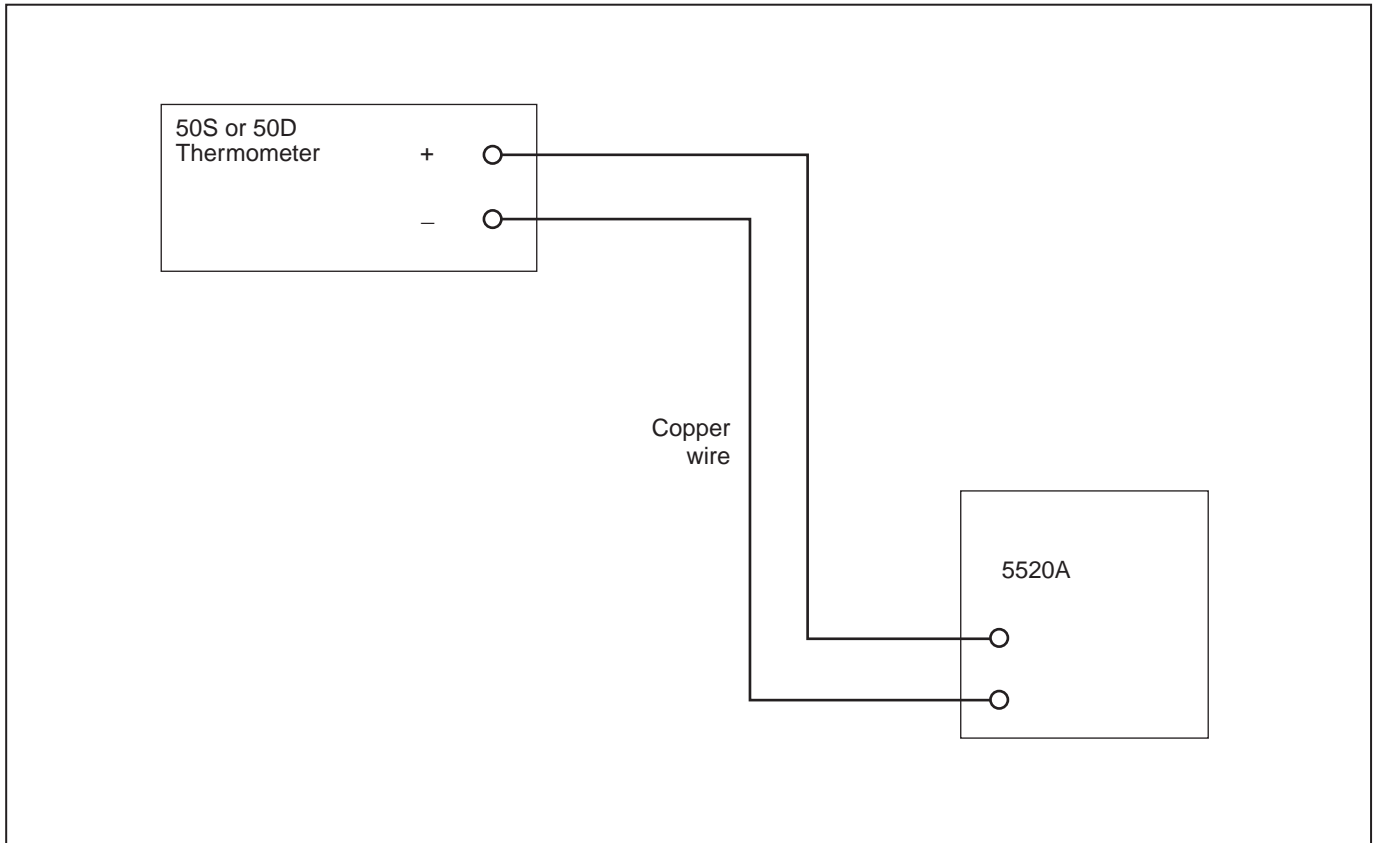
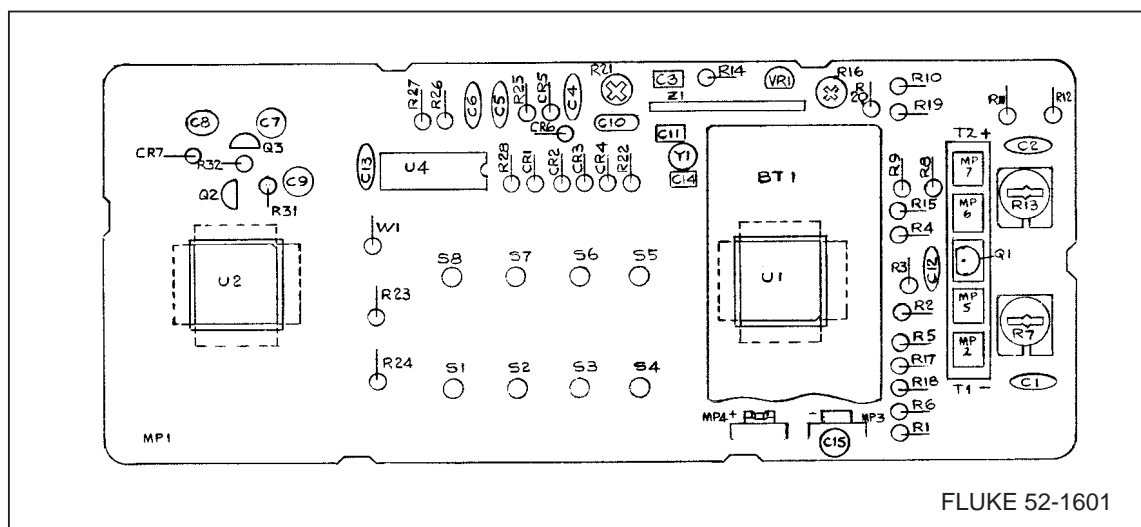

Figure 5. Calibration Connections
Figure 6. A1 Main PCA Adjustments
When calibrating the thermometer, refer to Figure 5 for the proper setup connections and Figure 6 for adjustment locations.
6. Allow the thermometer reading to stabilize. Refer to Figure 6 and adjust the T1 offset adjustment (R7) for a display reading of $25.2\text{ }^{\circ}\text{C} \pm 0.1\text{ }^{\circ}\text{C}$.